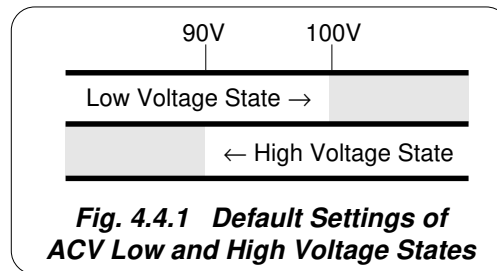

Fig. 4.4.1 Default Settings of ACV Low and High Voltage States
Each threshold value is related to the value set on the screen, including any Deviation. The default state boundaries are shown in *Fig. 4.4.1*. The values given in the figure translate to DC volts in DCV function, and RMS volts in ACV function.
- a. Use the front panel controls to set the 9100 Output to the UUT cal point frequency and voltage, entering High Voltage State if the cal point has been assigned to that state. The default High Voltage State boundaries are shown in *Fig. 4.4.1*.